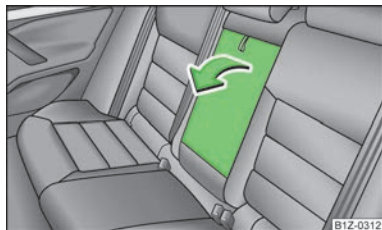

Fig. 48
- The armrest can be folded down to increase comfort using the loop » Fig. 48.